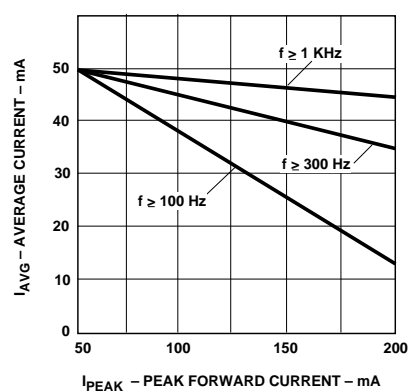

Figure 5. Maximum Average Current vs. Peak Forward Current.
2. Any pulsed operation cannot exceed the Absolute Max Peak Forward Current or the Max Allowable Time Average Power as specified in Figure 5.